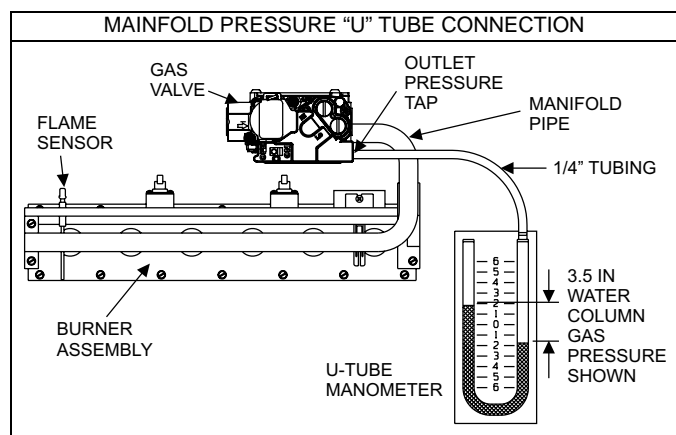

FIGURE 31: Reading Gas Pressure
Inlet and manifold gas pressure may be measured by connecting the "U" tube manometer to the gas valve with a piece of tubing. Follow the appropriate section in the instructions below. Refer to Figure 31 for a drawing of the locations of the pressure ports on the gas valve.
Connect the positive side of the manometer to the OUT P Tap on the gas valve. Do not connect any tubing to the negative side of the manometer, as it will reference atmospheric pressure. Refer to Figure 31 for connection details.
1. Refer to Figure 31 for location of pressure regulator adjustment cap and adjustment screws on main gas valve.